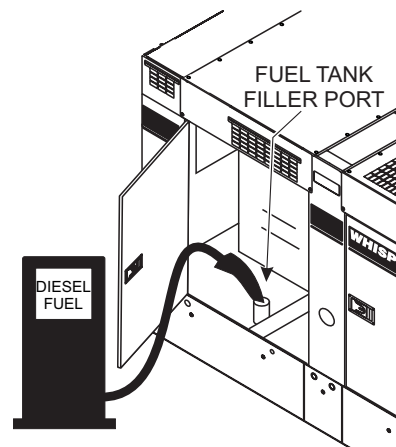

Figure 40. Fueling The Generator
2. Open the enclosure door, remove the fuel cap and fill tank as shown in Figure 40.